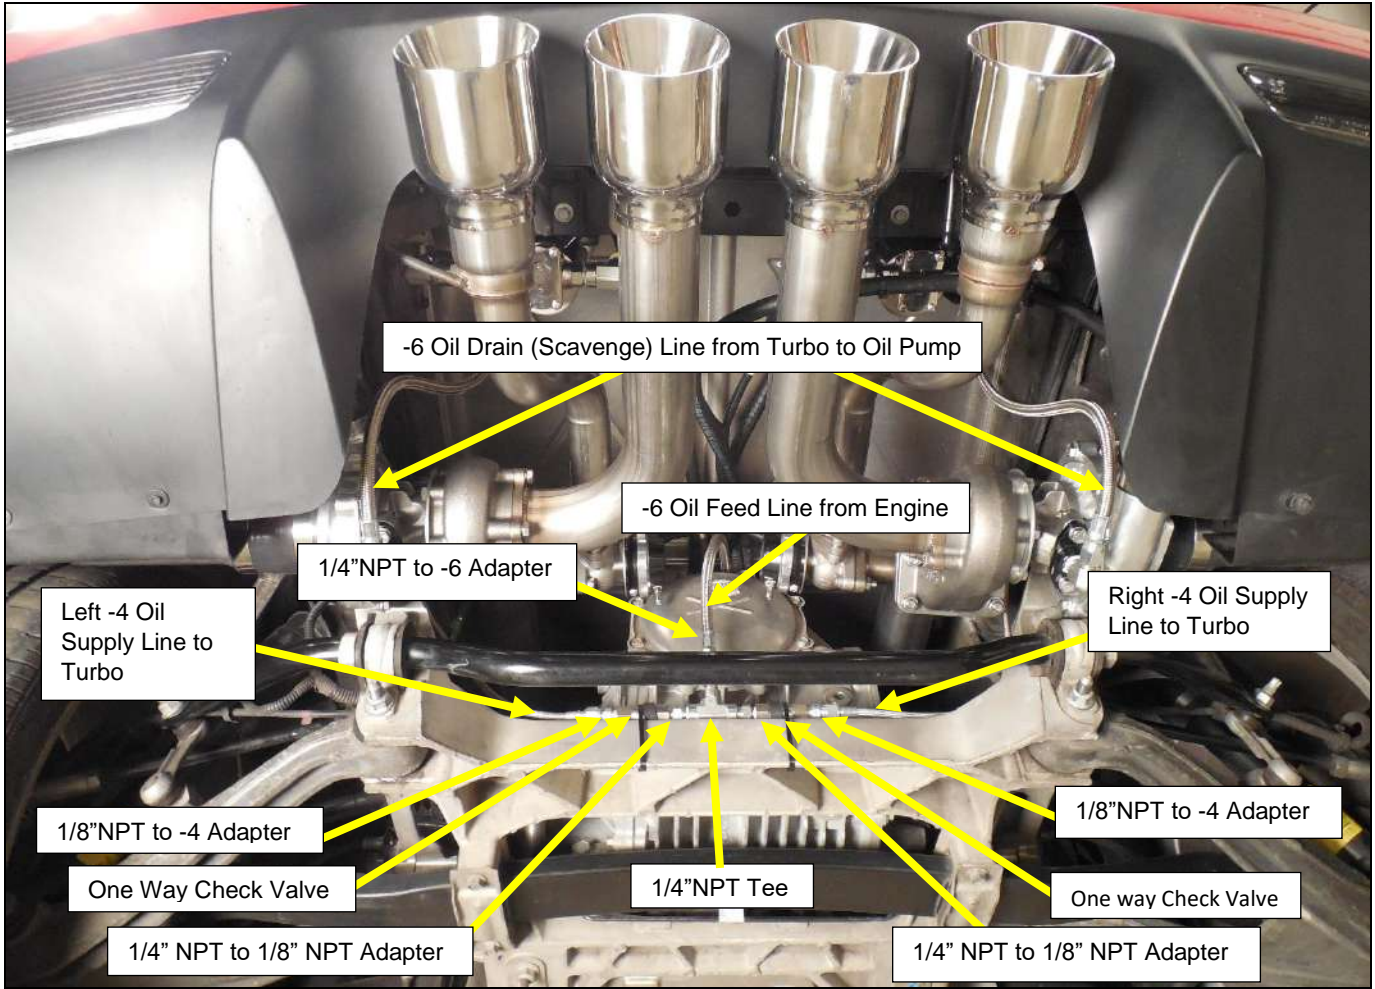

Figure 50
### Assembling the Oil Feed Tee and Flow Check Valves – Figure 50 (next page)
3. Install a One Way Flow Check Valve at each 1/8" NPT male fitting previously installed on each side port of the tee fitting. **Fig.50 (See illustration next page)**
1. Install the short braided -6 line from the oil pump inlet fitting (this is the fitting on the outboard side of the oil Pump that has the 3 psi switch installed) to the -6 fitting on the bottom of the Turbo. See **Figure 41 (previously)** and **Figure 50** (below).